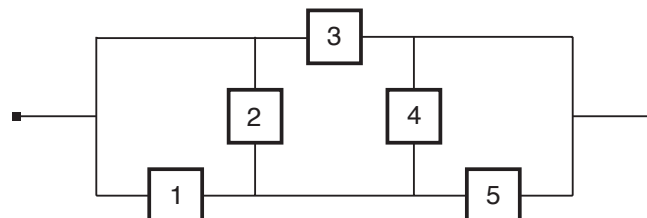

Figure 5.1: System to analyze
Consider the system represented by the reliability block diagram in Figure 5.1.
- Find the minimal cut sets of the system in Figure 5.1.
(b) Find the structure function of the system in Figure 5.1.